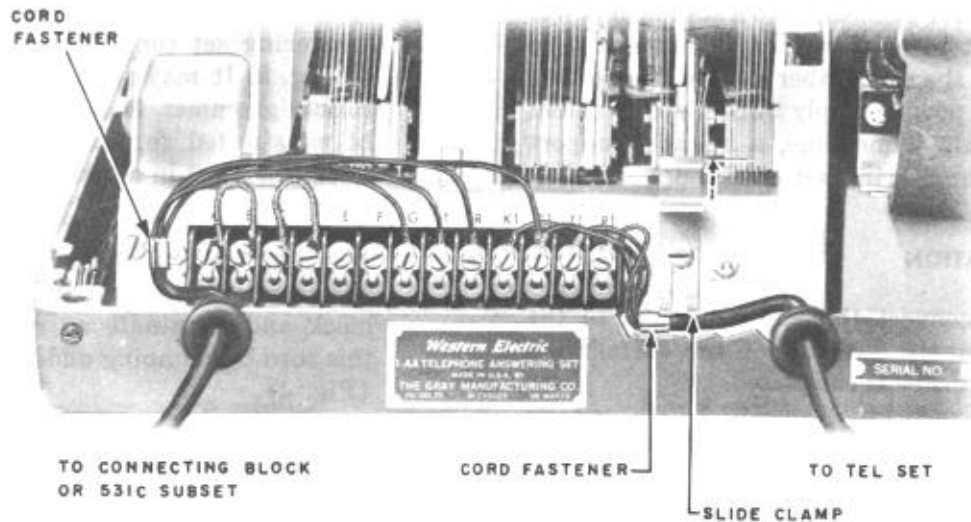

Fig. 4 — Terminal Strip for 1AA Answering Set
- For the 1AA answering set insert the telephone set mounting cord through the rubber grommet to the right of the connecting block and terminate as required. Anchor this cord by clamping under the slide clamp (Fig. 4).
- In the 1AA answering set insert the mounting cord from the 42A connecting block or 531C subscriber set through the rubber grommet to the left of the terminal strip. Anchor cord by placing stay hook under screw on rear of the chassis (Fig. 4).
- In 1AA answering set place grommets in their respective slots in base of set (Fig. 4).